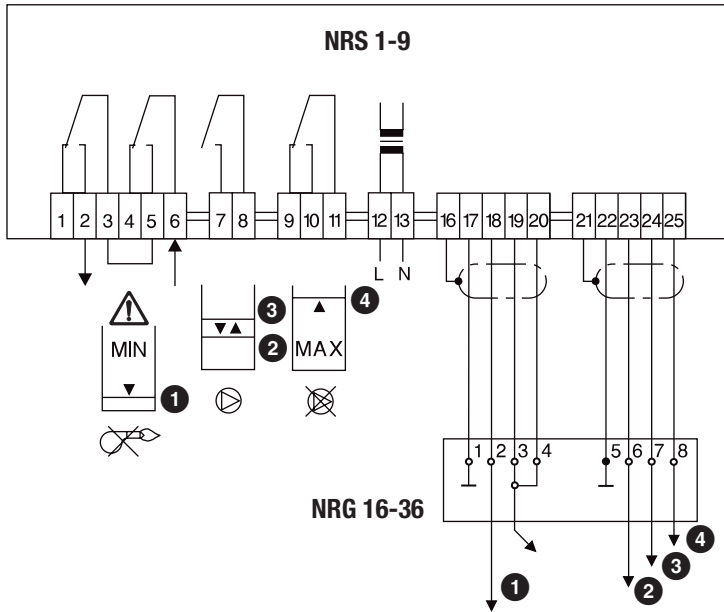

Fig. 10
Connect terminal strip in accordance with wiring diagram, **fig. 10**
Check whether switching controller NRS 1-9 and the associated electrode NRG 16-36 are wired in accordance with wiring diagram, **fig. 10**
2. Lower water level in boiler until electrode tip "2" (lower switch point) is completely exposed, **fig. 10**.
Remedy: Check length of low-water level electrode tip. Measure the conductivity of the process or boiler water and compare the values obtained with the marking on the name plate. Check correct wiring of switching controller and electrode in accordance with wiring diagram, **fig. 10**.
Remedy: Check length of high water level electrode tip. Check whether the electrode tip has contact with the chamber/protection tube or other boiler internals. Check correct wiring of level switch and electrode in accordance with wiring diagram, **fig. 10**.